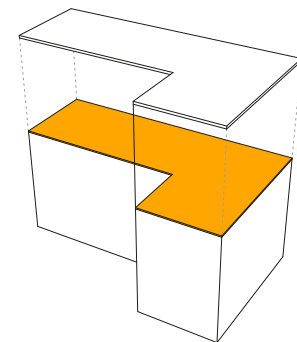

fig. 2
- **6 mm:** we recommend covering the entire surface of the support on which the slab is positioned with a rigid support polypropylene (or similar) (fig. 2). To counter any differences in expansion between the two elements, it is preferable to use an elastic adhesive;